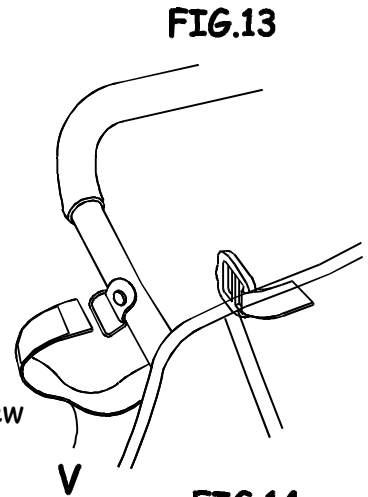

FIG.13
SECURE SUN SHADE TO THE FRAME (FIG. 13 & 14)
- Position top of sun shade at top of seat, as shown in FIG. 13